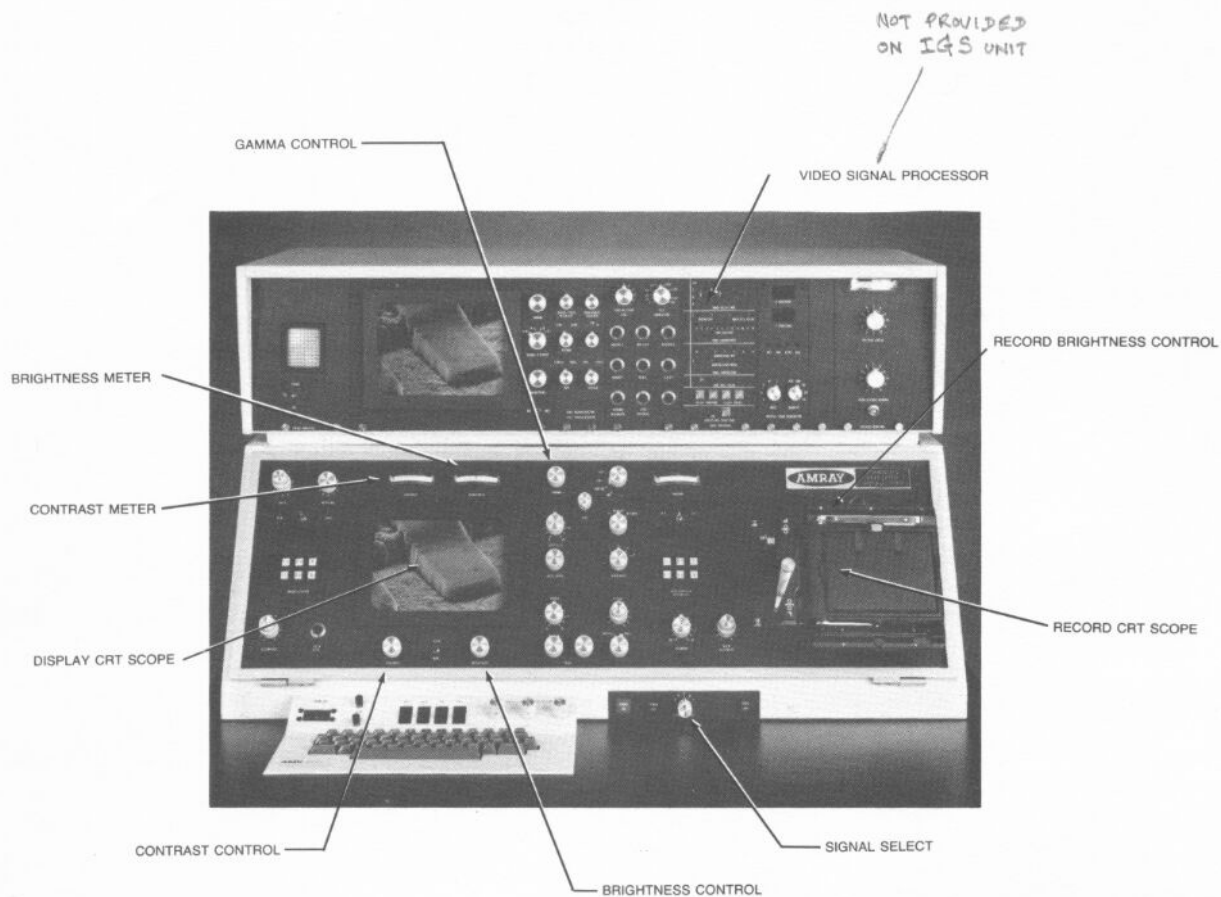

Figure 1.5
C. Video Signal Control, Display and Record System (figure 1.5)